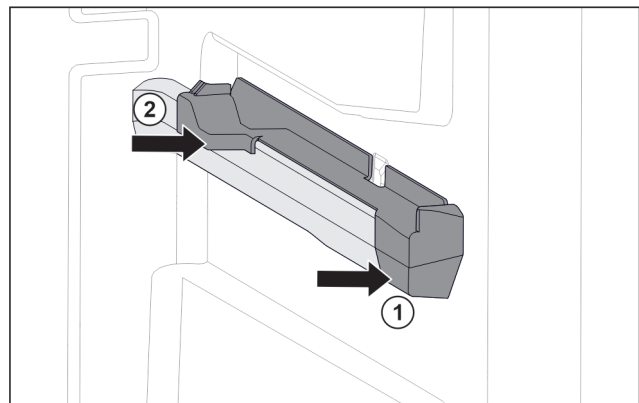

Fig. 109 Attachment on the right molded rib
- ▶ Position attachment on molded rib at the front. Fig. 109 (1)
- ▶ Press on attachment at the back. Fig. 109 (2)